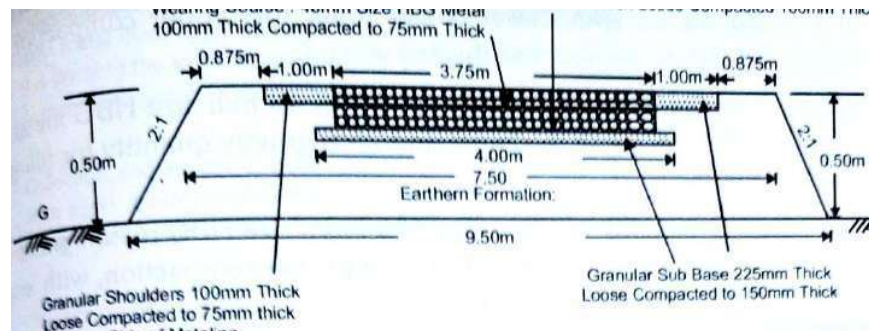

Fig.5
(B) Calculate the following quantities of WBM road shown in the fig.5 for a length of 1.50 km: